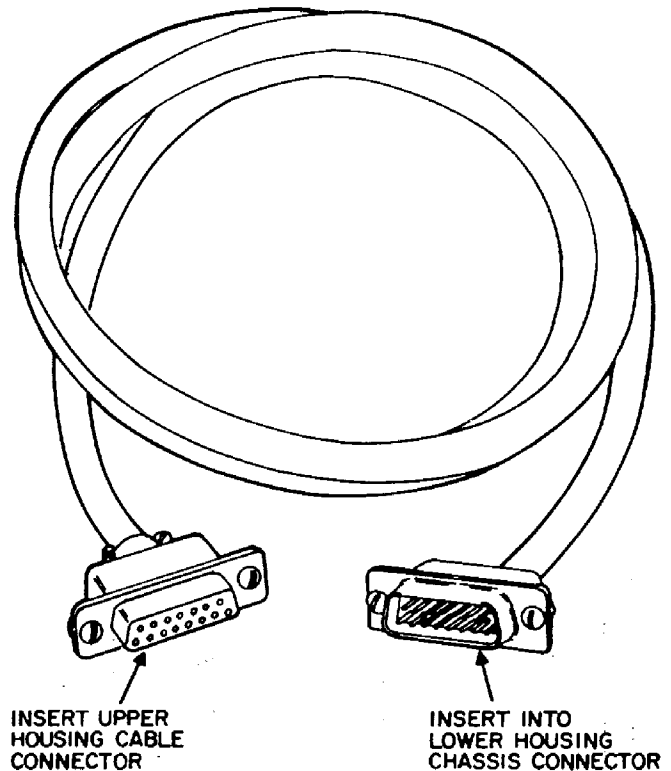

Figure 11. Coin Telephone Test Cord P-60754-A.
- (b) A P-60754-A test cord (Figure 11) for LPC telephone sets.
- (2) Lift the handset. Deposit a test coin in the hopper. Hang up and check for coin refund.
- (3) Lift the handset. Deposit a test coin in the hopper. Dial a predetermined local number. When the called party answers, check transmission and then have called party hang up. Hang up and check that the coin is collected.